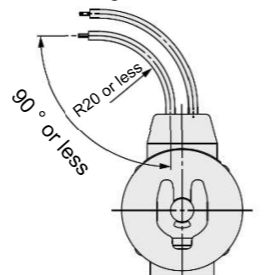

Figure 4. Lead wire bending
- Do not bend the lead wires beyond 90° with a radius of less than 20 mm or damage may occur. See figure 4.